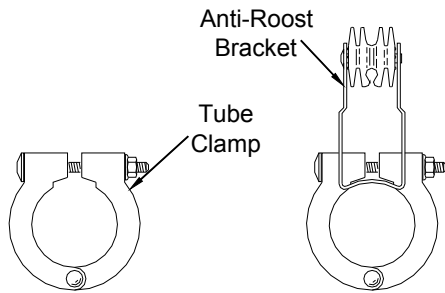
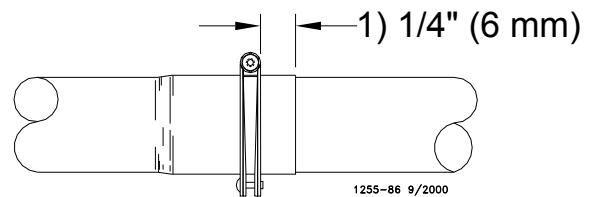

Figure 30. Tube Clamp and Anti-Roost Bracket
Figure 31. Tube Joint Connection
3. Place a tube clamp assembly or clamp/anti-roost bracket at each joint. **Figure 30** shows the standard clamp and clamp/anti-roost bracket. Make sure each tube fits as far as possible into the belled end of the next tube. the outlet holes **must point down**. Install tube clamps as shown in **Figure 31**.
- make sure clamp is located, as shown in **Figure 31**.